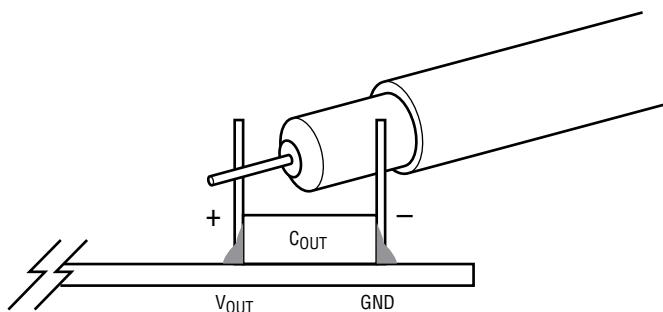

Figure 2. Measuring Input or Output Ripple Across Terminals or Directly Across Bulk Capacitor
**NOTE:** When measuring the input or output voltage ripple, care must be taken to avoid a long ground lead on the oscilloscope probe. Measure the input or output voltage ripple by touching the probe tip directly across the  $V_{HIGH}$  or  $V_{LOW}$  and GND terminals or directly across relevant capacitor. See Figure 2 for proper scope probe technique.